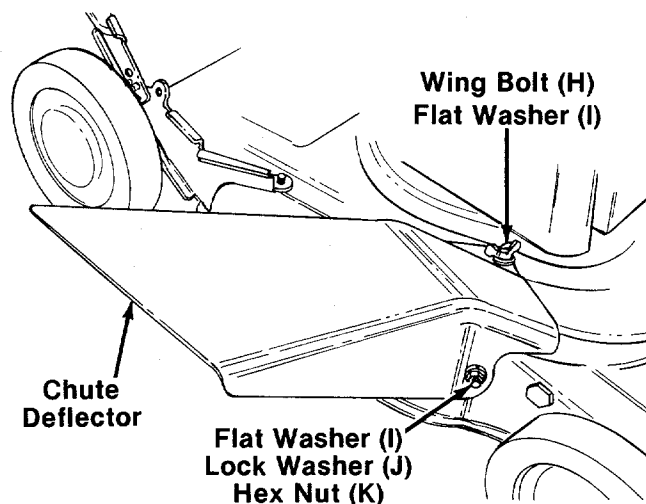

FIGURE 11.
1. Place the holes in the chute deflector over the bolts protruding from the right hand side of the deck, and slide it into position. Secure the top of the deflector with one flat washer (I) and wing bolt (H). See figure 11.
2. Secure the front of the deflector to the bolt protruding from the deck with one flat washer (I), lock washer (J) and hex nut (K). See figure 11.